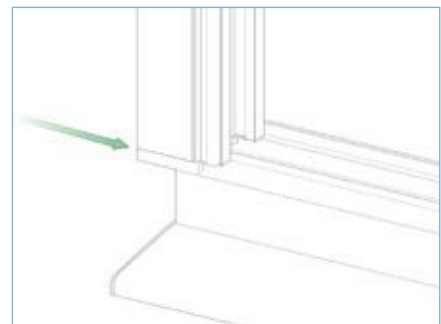

FIG 4B
► **4.5.** Using a rubber mallet, gently tap the jambs in to the track as shown in FIG 4B.